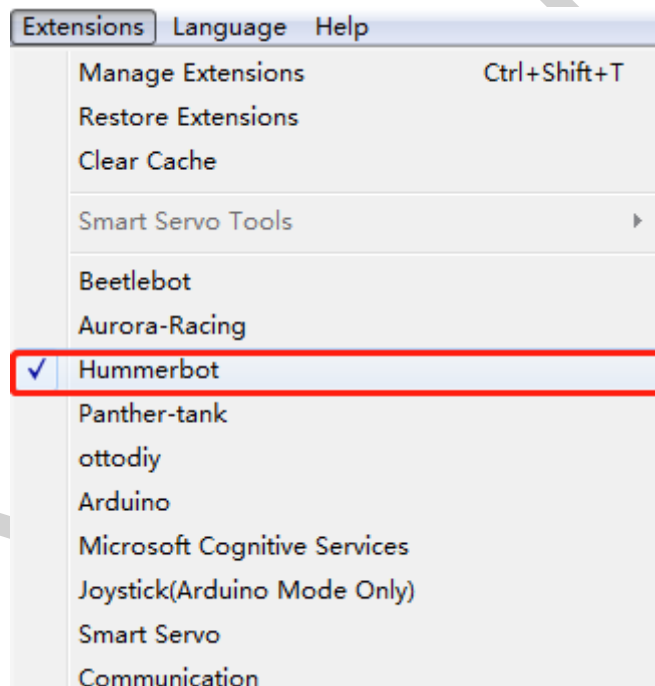

Figure 2-5
- 6) Click “Extension”, select “Hummerbot”, and then click “Script → Robot Module”, the Hummerbot block graphic programming block will be displayed in the building block area, as shown in Figure 2-5.